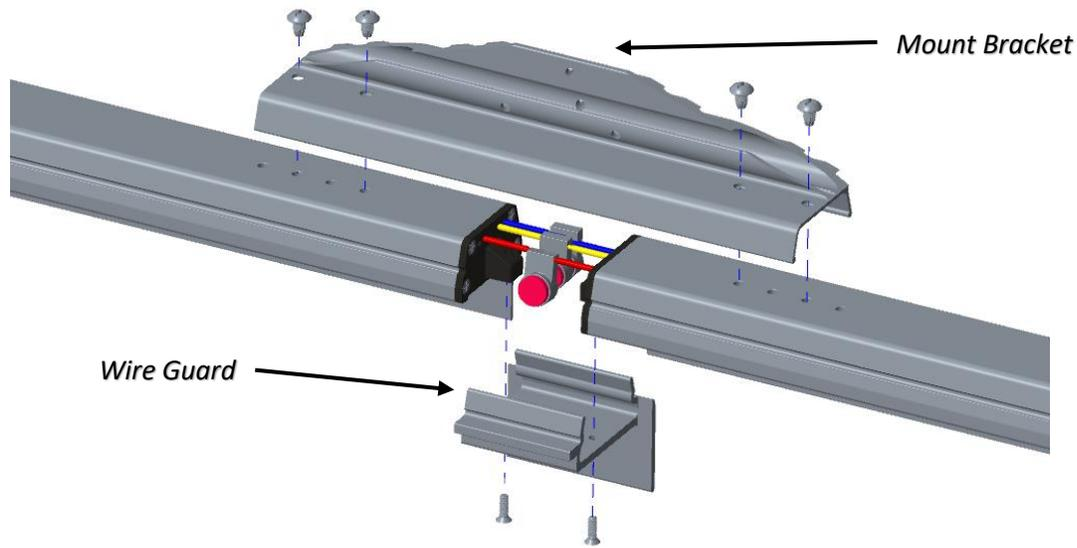

Figure 5: Electrically connecting adjacent fixtures.
2. Connect the wires located under the Mount Bracket. Connect red to red, blue to blue and yellow to yellow. The yellow wire is only required if the dimming feature of the fixture is used. Trim or cap the yellow wire if dimming is not used (see Figure 5).